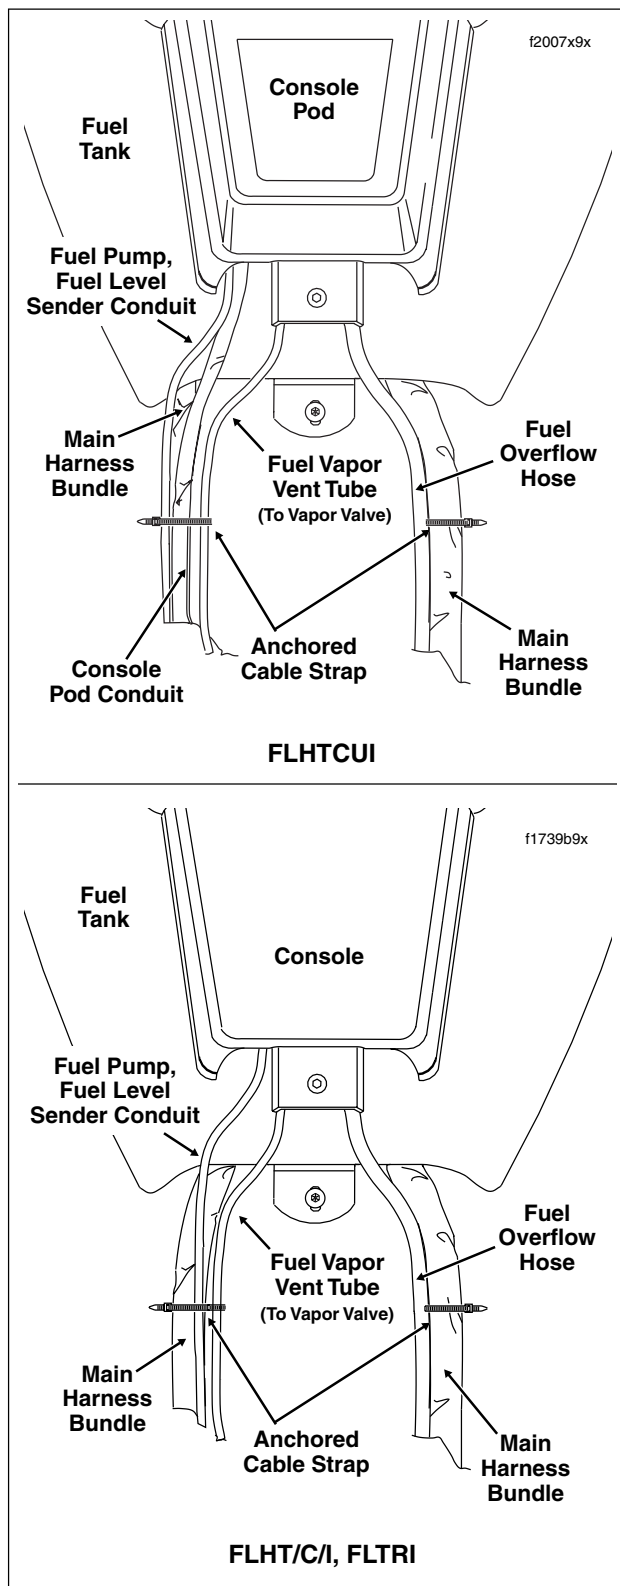

Figure 9-12. Console Pod Cable/Hose Routing (Top View)
9. Remove filler cap. Position console on canopy. Route cables from beneath console as shown in Figure 9-12. Be sure that hoses and wires are not pinched by the console during installation. Reinstall filler cap.
12. Snap anchor of new cable strap into hole on left side of frame backbone. Tighten cable strap capturing main harness bundles, console pod conduit (Ultra models only), fuel level sender/fuel pump conduit, and fuel vapor vent tube. See Figure 9-12. Cut any excess cable strap material.
13. Snap anchor of **new** cable strap into hole on left side of frame backbone. Tighten cable strap capturing main harness bundle, instrument console conduit, and fuel vapor vent tube. Cut any excess cable strap material. See Figure 9-12.